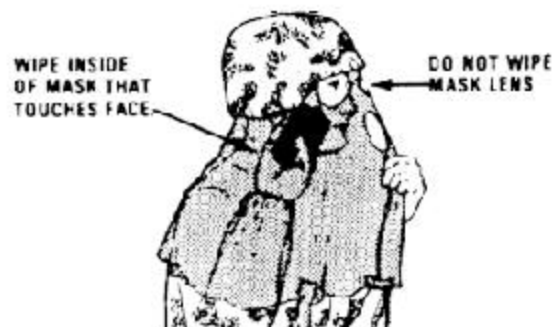

Figure E-82. Decontaminating the inside of the mask.
- (1) Begin where you ended in step c.
- (2) Wipe across and under your jaw to your chin, cupping your chin.
- (3) Wipe across and under your jaw to the end of your jawbone.
e. Turn your hand out and quickly wipe the inside of the mask that touches your face (figure E-82).